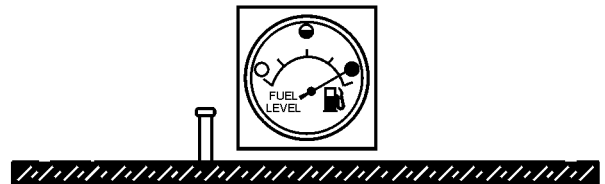

Figure 31. Full Fuel Tank
3. **NEVER overfill fuel tank** — It is important to read the fuel gauge when filling the fuel tank. (Figure 31). The ECU controller must be powered **ON** in order to read the fuel gauge.